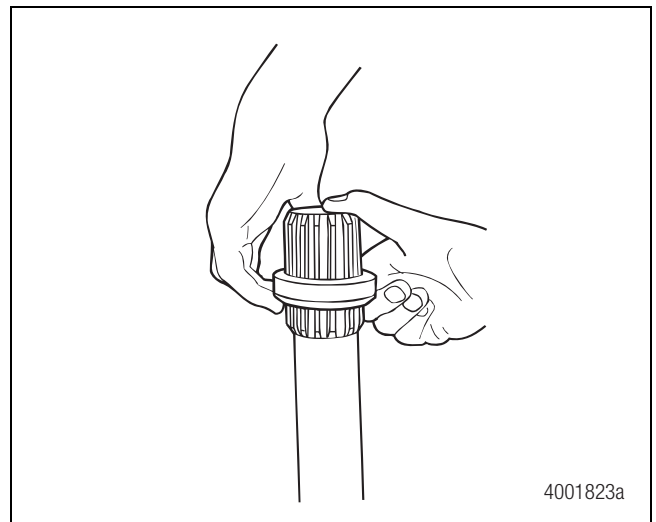
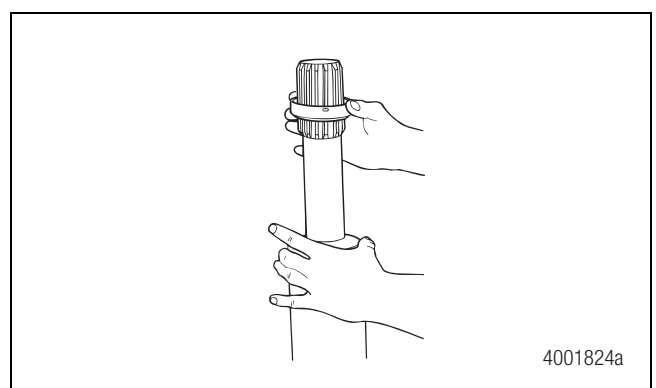

Figure 3.7
Figure 3.8
5. Remove the seal. Figure 3.7. Remove the shroud. Figure 3.8.